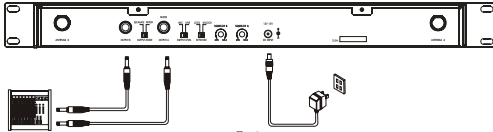

Fig.3
2. Connect the power supply as shown in Fig.3. (Caution: Ensure the power supply has the correct rating for your local AC supply)
3. Connect audio leads from the output of each channel to an input on a mixer or powered speaker. When the output cable is connected to an auxiliary or line input the "OUTPUT LEVEL" switch (16) should be set to the "LINE" position. When the output cable is connected to a microphone input of a mixer or powered loudspeaker the "OUTPUT LEVEL" switch should be set to the "MIC" position. If the "LEVEL" switch is set in the wrong position the gain structure will be wrong and can cause excessive hiss or distortion.
4. When the "OUTPUT MODE" switch (14) is set to "MIXED" only connect to "OUTPUT A" (13). There is no output from "OUTPUT B" in this mode.